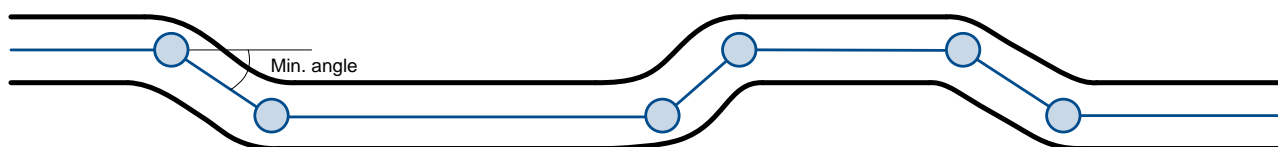

Figure 59 Angle based tracking
**Angle based data acquiring** (Figure 59) – records are being acquired when angle difference between last recorded coordinate and current position is greater than the defined value. Entering zero disables data acquisition depending on angle. This method is suitable for urban territories. Note that record generation by angle is performed if vehicle is moving at least 6 km/h.